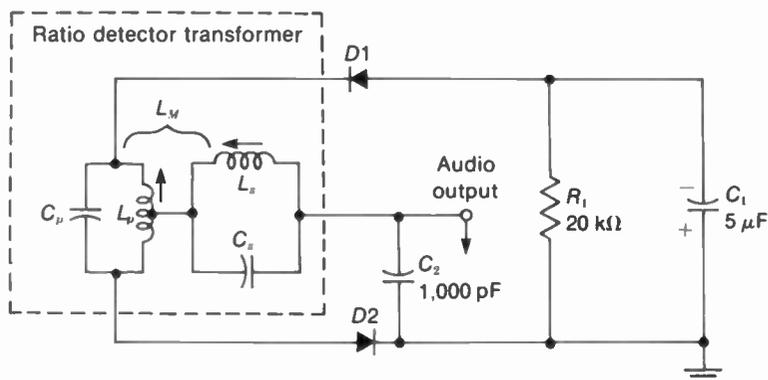

FIGURE 27-15 RATIO DETECTOR WITH SINGLE-ENDED OR UNBALANCED OUTPUT CIRCUIT.
**Single-ended ratio detector.** Figure 27-15 illustrates a ratio detector circuit that has an unbalanced output circuit. The input circuit, which is shown in its equivalent form, is the same as in the balanced circuit. However, only the one diode load capacitor  $C_2$  is used in the audio output circuit. Also, the stabilizing voltage across  $R_1$  and  $C_1$  is not center-tapped. It is not necessary to ground the center point of the stabilizing voltage source.
The only effect of the ground connection in Fig. 27-15 is to change the dc level of the audio output signal at A with respect to chassis ground. The same audio signal variations are obtained, but around a dc voltage axis equal to one-half the stabilizing voltage. However, the audio output always has a zero dc level with respect to the midpoint of the stabilizing source.